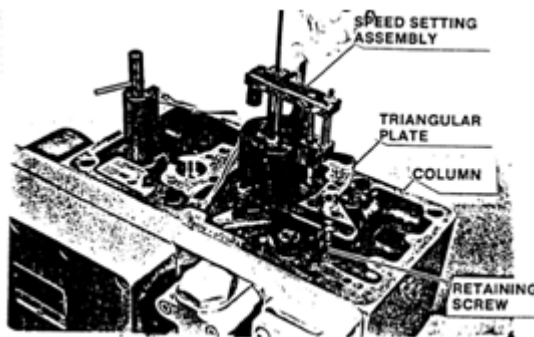

Figure 5-59. Speed Setting and Triangular Plate
36. Set speed-setting cylinder assembly in place and fit triangular plate under top of retaining screw. Secure both to column with screws and washers (Figure 5-59).